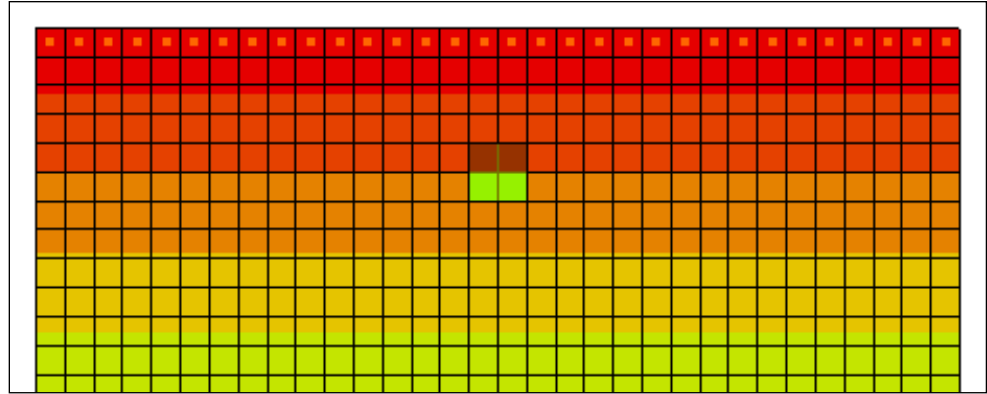

Figure 3 The four cells with initial contaminant concentrations
1. Hold the ctrl key down and select the cells "5,16,1", "5,17,1", "6,16,1", and "6,17,1" (see Figure 3).